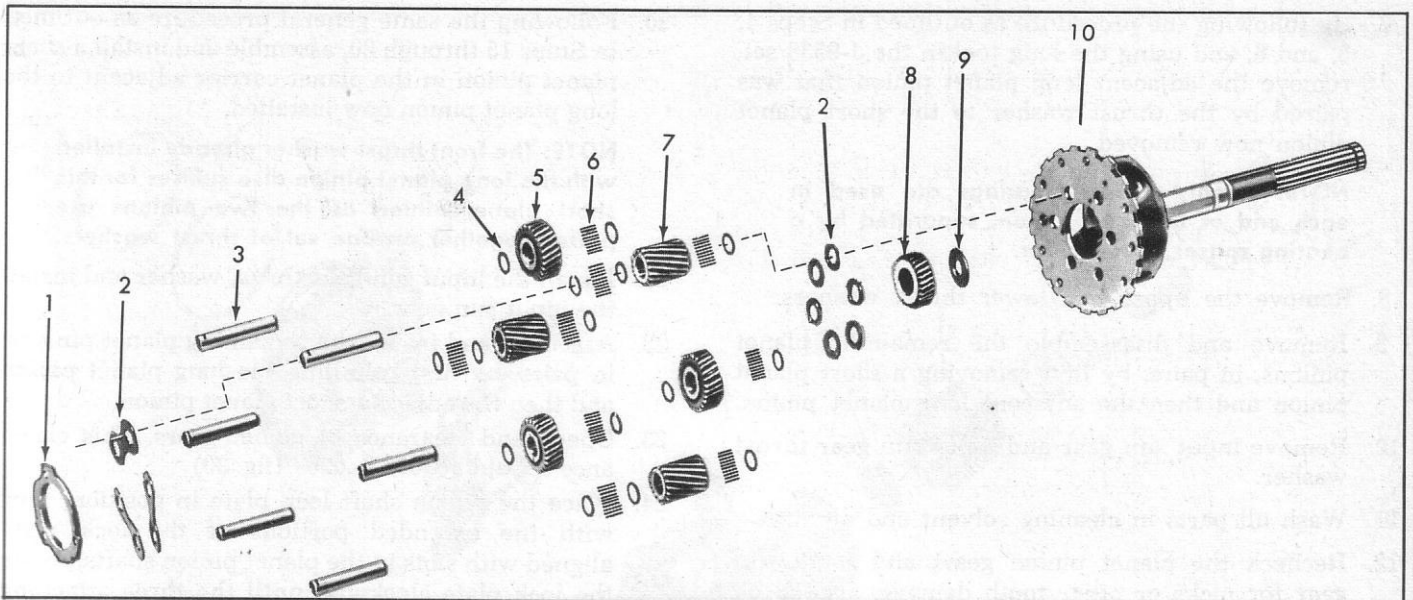

Fig. 31—Planet Carrier Assembly—Exploded View
Refer to Figure 31.
15. Using J-9538, assemble needle bearing spacer and needle bearings (20 in each path) in one of the long planet pinions (fig. 31). Use petroleum jelly to aid in assembling and holding the needle bearings in position.